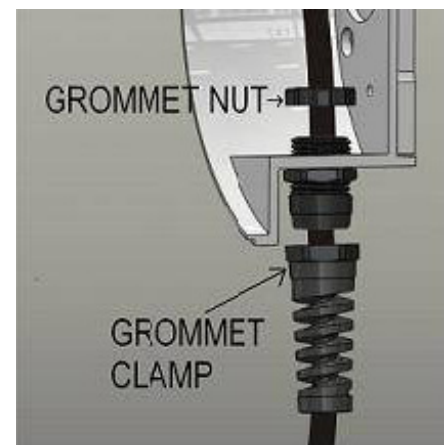

Figure 123
- Loosen the cable grommet clamp as shown in Figure 123 . Loosen the grommet nut inside the Base Unit as shown in Figure 123 and remove the grommet & the cable out of the Base Unit (through the cable entry hole).